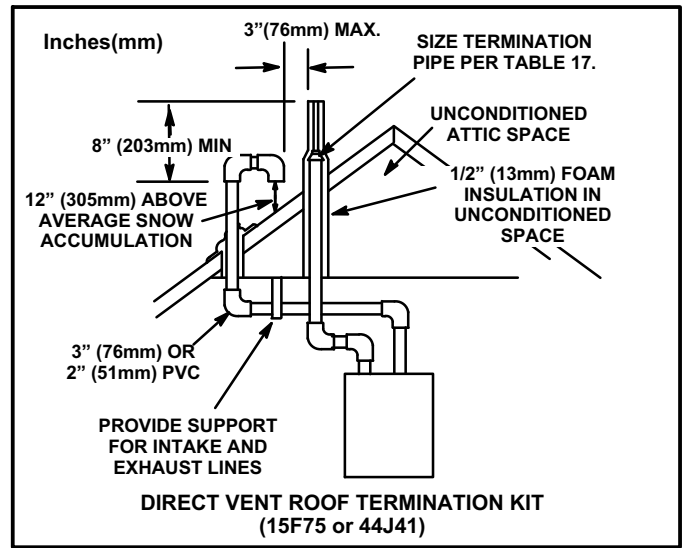

FIGURE 38
NOTE - In Direct Vent installations, combustion air is taken from outdoors and flue gases are discharged to outdoors. Intake and exhaust pipes may be routed either horizontally through an outside wall or vertically through the roof. In attic or closet installations, vertical termination through the roof is preferred. Figures 38 through 45 show typical terminations.
3. On roof terminations, the intake piping should terminate straight down using two 90° elbows (See figure 38).